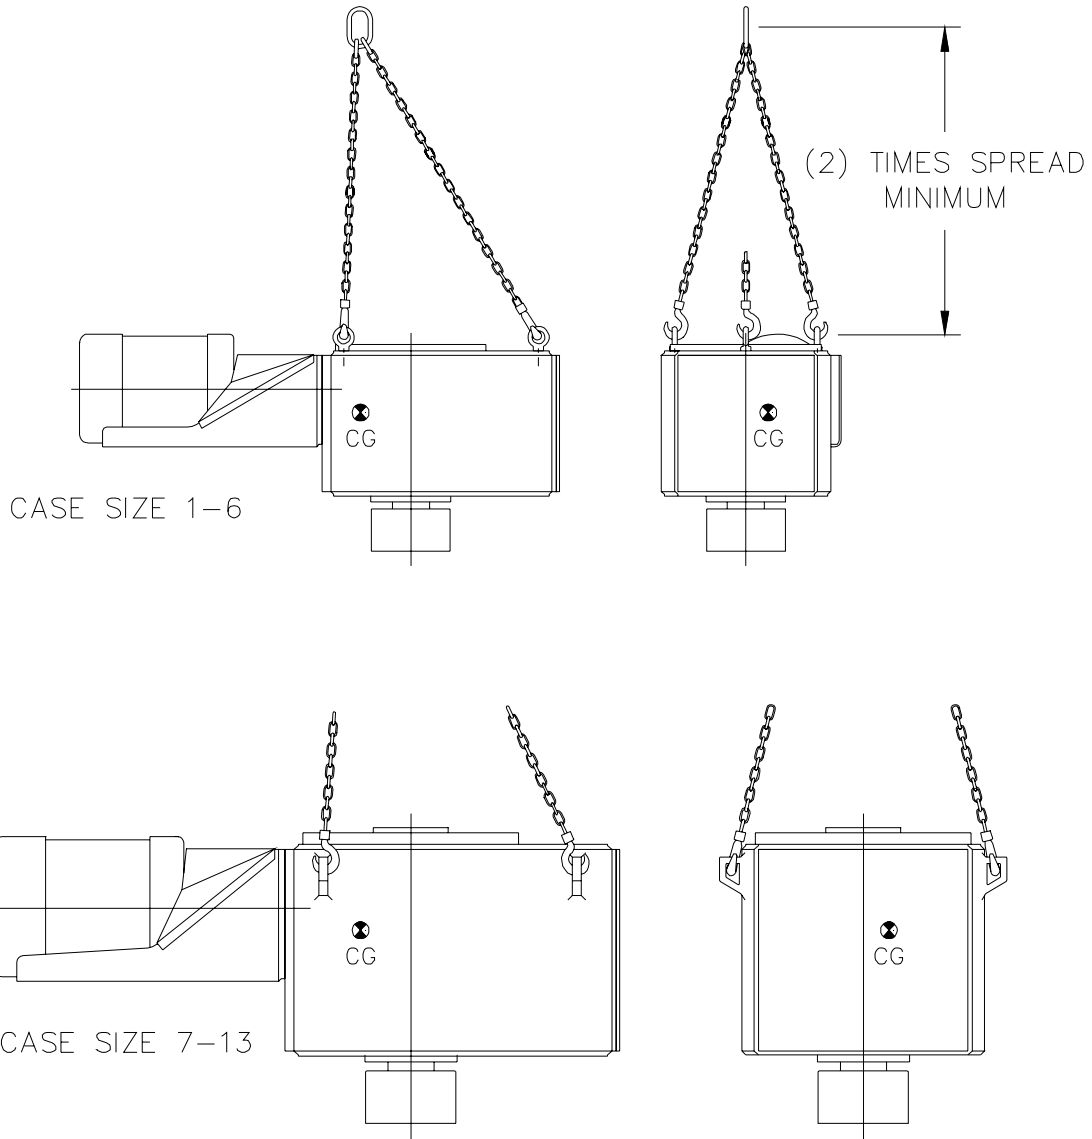

Figure 2. Legacy HT Drive Lifting
4. Remove agitator mounting bolts. With a hoist or crane system, lift the agitator assembly (*Figure 2, page 5*) and block the extension shaft in place. Remove the rigid coupling bolts.